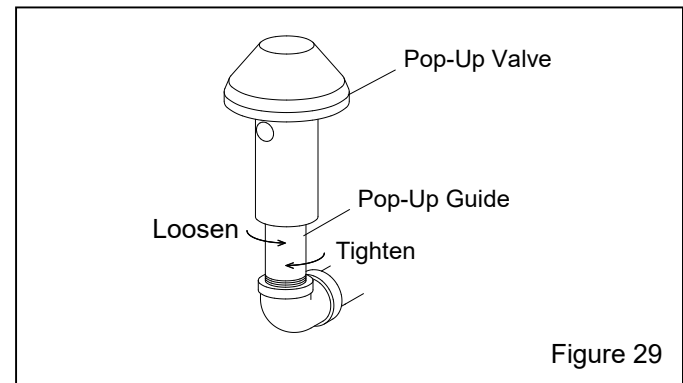

Figure 29
7.8.5 Use a short pipe wrench to unscrew the pop-up valve guide from the elbow by turning it counterclockwise, as shown in Figure 29. Remove the pop-up valve and guide from the machine.